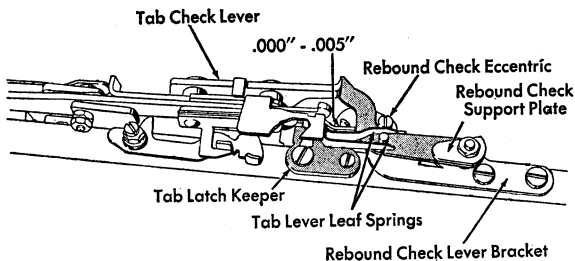

Figure 35. Rebound Check Adjustment (Former Style)
- a. The rebound check bracket is adjusted two ways: Position the bracket left or right so that the rebound check lever will clear the right face of any set tab stop by a maximum of $.010''$ when the left face of the stop is pressed firmly against the tab check lever (Figure 35). At the same time position the bracket front or rear so that, with the tab cam on its high point, there will be $.000''$ to $.005''$ between the over-throw stop on the rebound check bracket and the tab lever extension (Figure 35).
- b. Adjust the rebound check eccentric stop so that, when the tab lever is latched out, the tip of the rebound check lever will be even with the tip of the tab check lever or have a maximum lead of $.005''$. The high point of the eccentric must be kept toward the left (Figure 35).
bottom of a set tab stop but not high enough to interfere with the tab check lever (Figure 35).
- d. Form the tab lever leaf springs in the following manner. With the tab lever at rest, form the rear spring so that it just touches the upright stud of the rebound check lever, and form the front spring so that it has approximately 1/16" clearance with the upright stud of the rebound check lever (Figure 35).